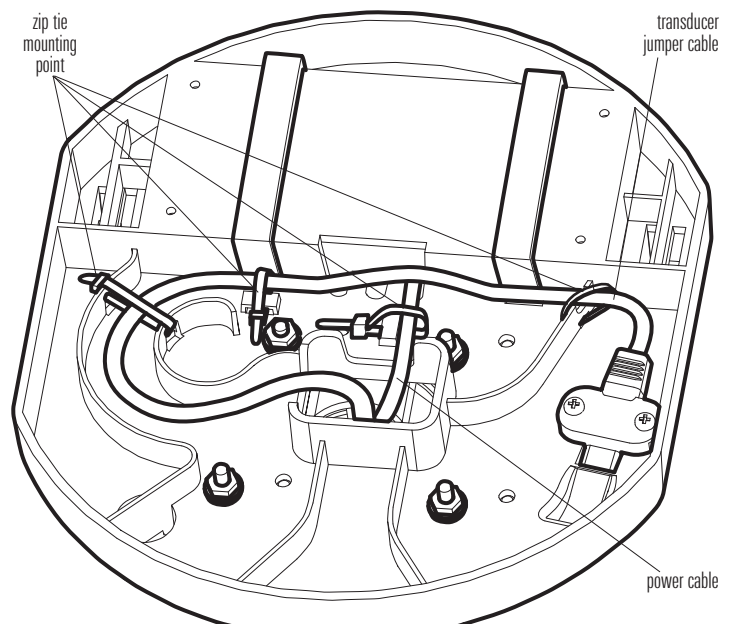

Figure 12
7. Secure all cables to the base, using the included zip ties, at the mount points shown in Figure 12.